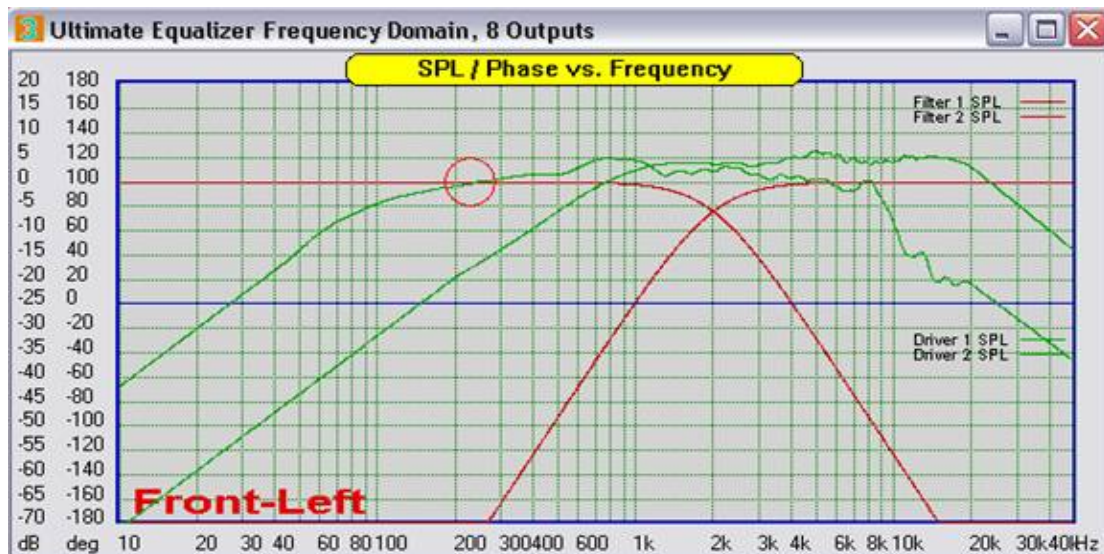

Figure 137. Plots of the selected high pass and low pass filter targets and driver SPL response.
- The selected response plots will appear the plot screen as shown in Figure 137.
- In Figure 137 notice the **red circle**. In this design we are not attempting to alter the low frequency response of the woofer. Thus it is advantageous to have the lower frequency limit for the HBT equalization of the woofer set to the frequency where the target response crosses the measured SPL data. This is at about 220 Hz.